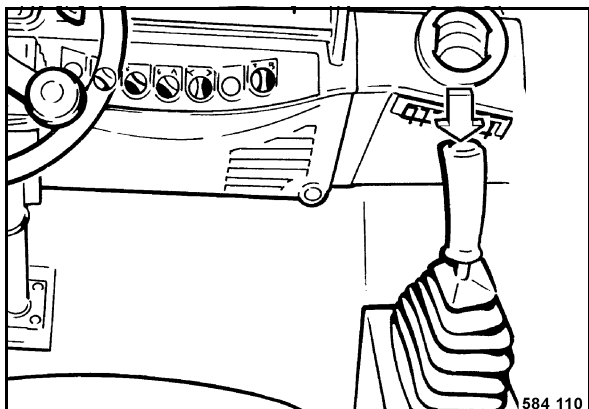

Fig. 95
- Switch the vibration on (Fig. 95).